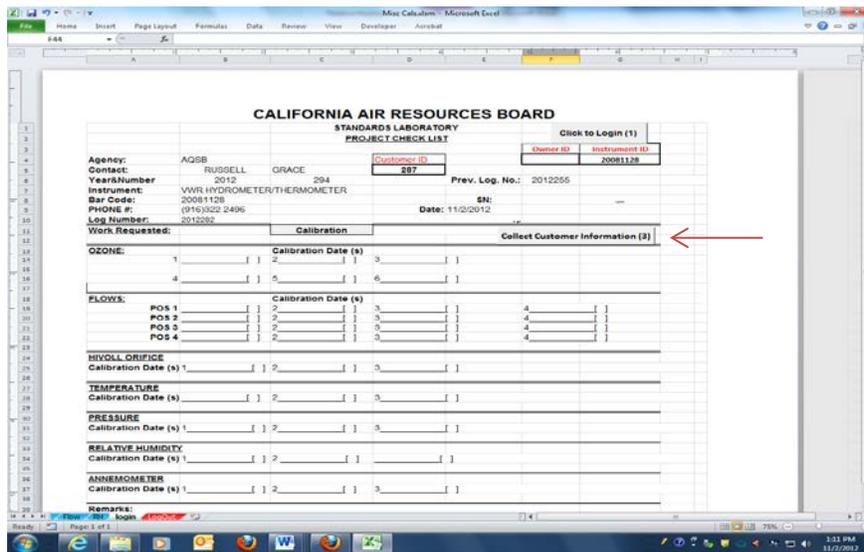

Figure 17: “Login” button
12.10 Click on the “Collect Customer Information” button. See Figure 17. Clicking on this button will collect: ID owner, Instrument type, Instrument ID number, Serial number, and Previous log number.